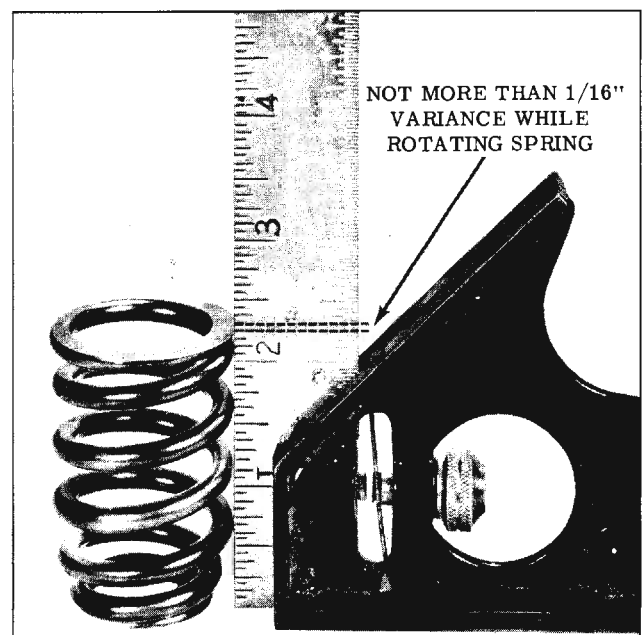

Fig. 8-19 Checking Valve Spring for Distortion
- a. Occasionally this noise can be eliminated by rotating the valve spring and valve. Crank engine until noisy valve is off its seat. Rotate spring 90°. This will also rotate valve. Repeat until valve becomes quiet. If correction is obtained, check for an off-square valve spring. If spring is off square more than 1/16" in free position, replace spring. (Fig. 8-19)